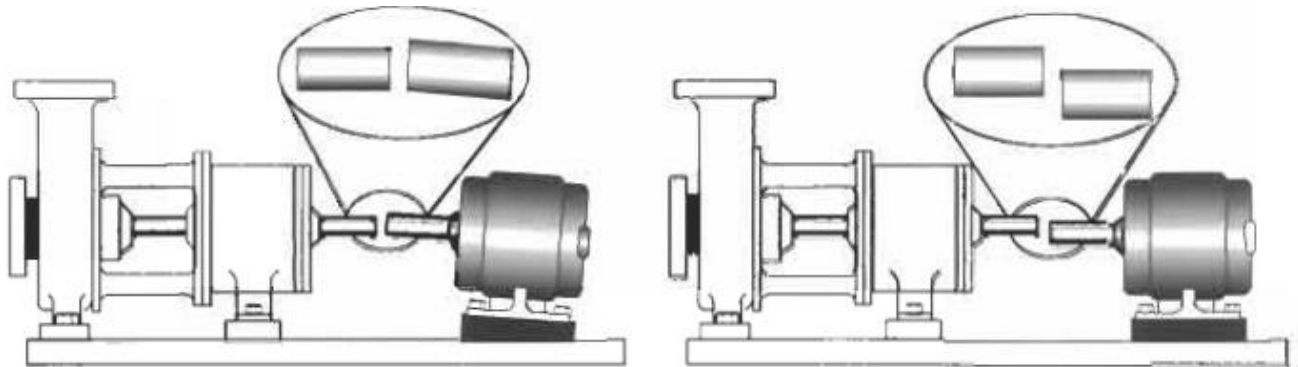

Fig 3.1 Side view of vertical/angular and vertical/parallel misalignment
- Vertical/angular misalignment (Figure 3.1)